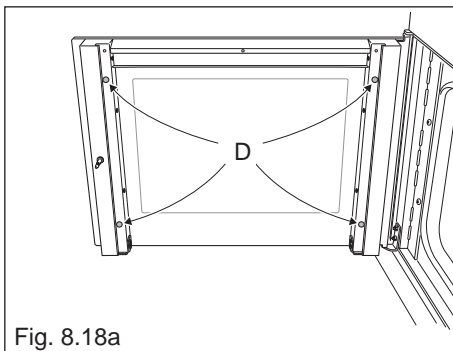

Fig. 8.18a
- Check that the four rubber pads are in place ("D" in fig. 8.18a).